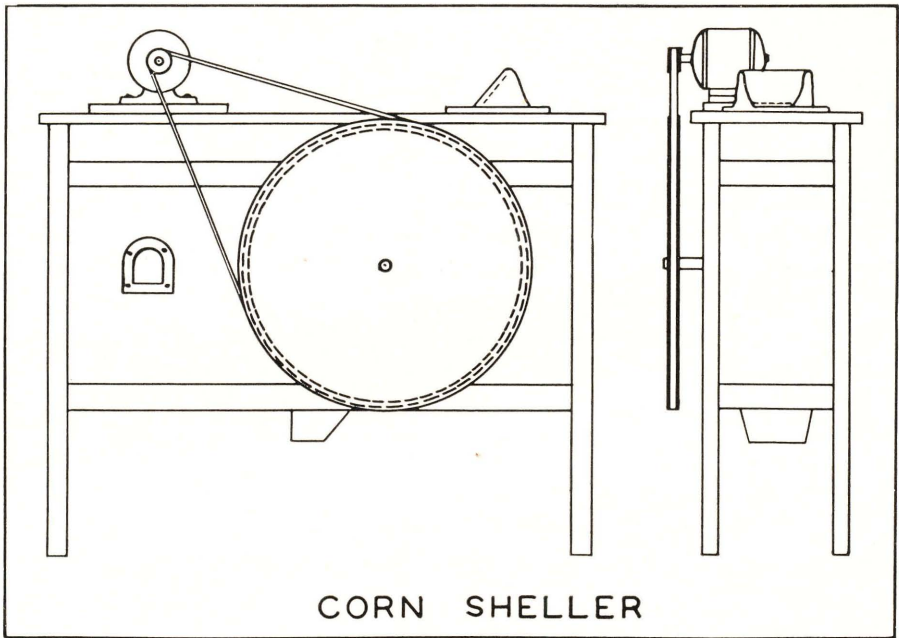

Fig. 31.
To transfer the motor to a corn sheller simply mount the board on top of the sheller as indicated in Fig. 31, and reverse the direction of rotation of the motor if necessary. A capacitor or repulsion-induction (RI) motor should be used.